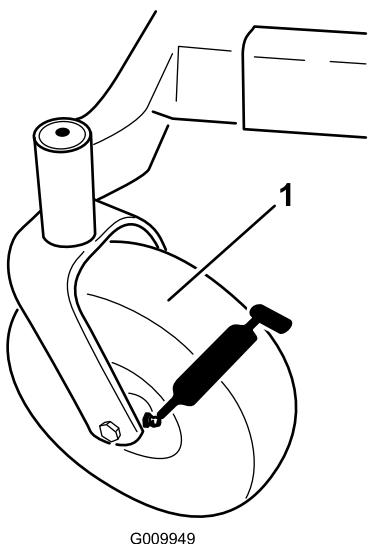

Figure 32
3. Clean the grease fittings with a rag (Figure 31 and Figure 32). Make sure to scrape any paint off of the front of the fitting(s).
4. Connect a grease gun to each fitting (Figure 32 and Figure 31). Pump grease into the fittings until grease begins to ooze out of the bearings.